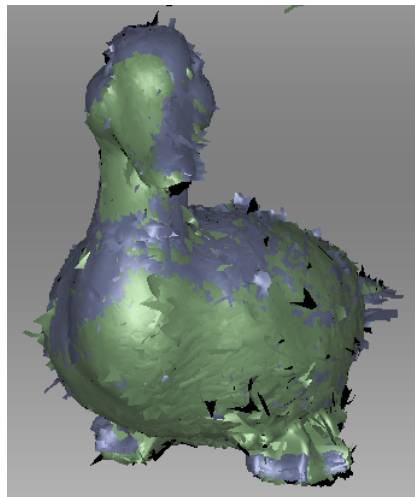

Figure 137: “Drag” alignment result
3. To confirm the alignment, release the mouse button(s) and the `Shift` key, then click *Apply*. Note carefully that any scans you are registering won't automatically move to the registered set  (see Figure 137). You can do so manually as the Changing Object Status describes.